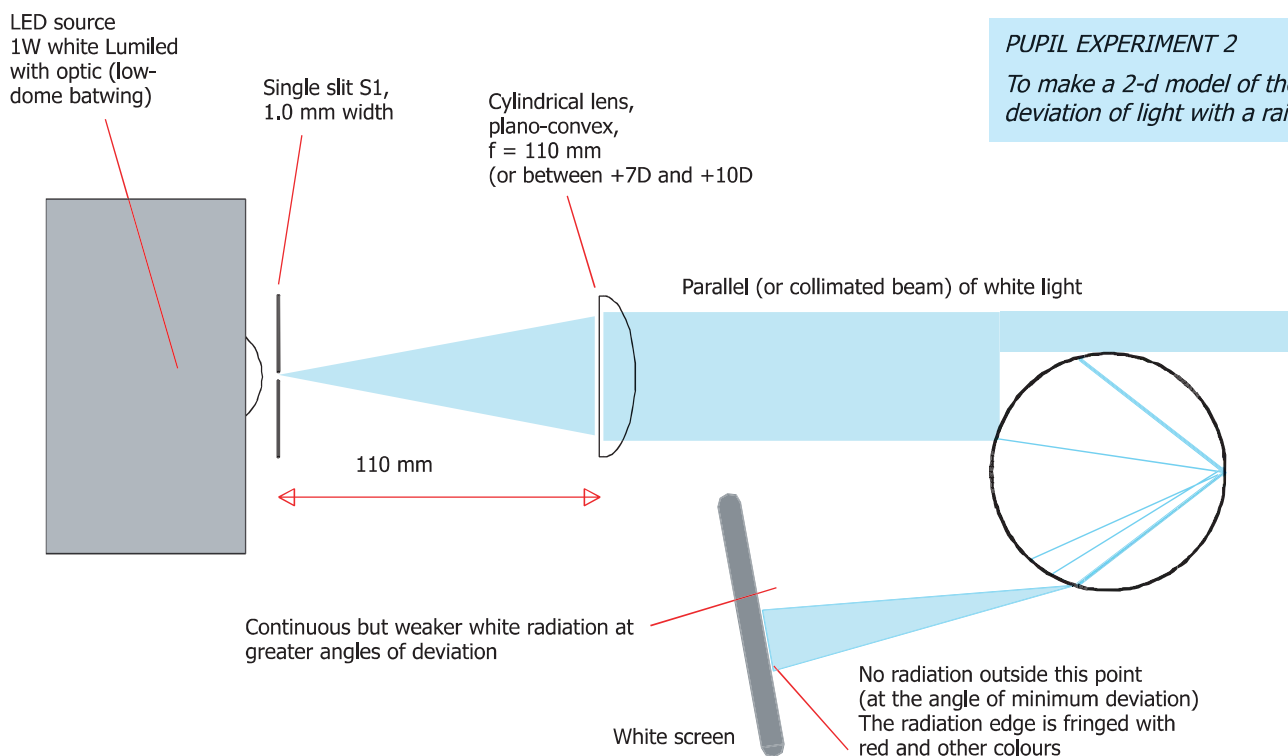

Figure 6 - Optical setup to show effects of double refraction and total internal reflection with a circular Perspex block (sunlight on raindrop model).
2. Raindrop analogue with a circular perspex disk (Fig. 6 / over).